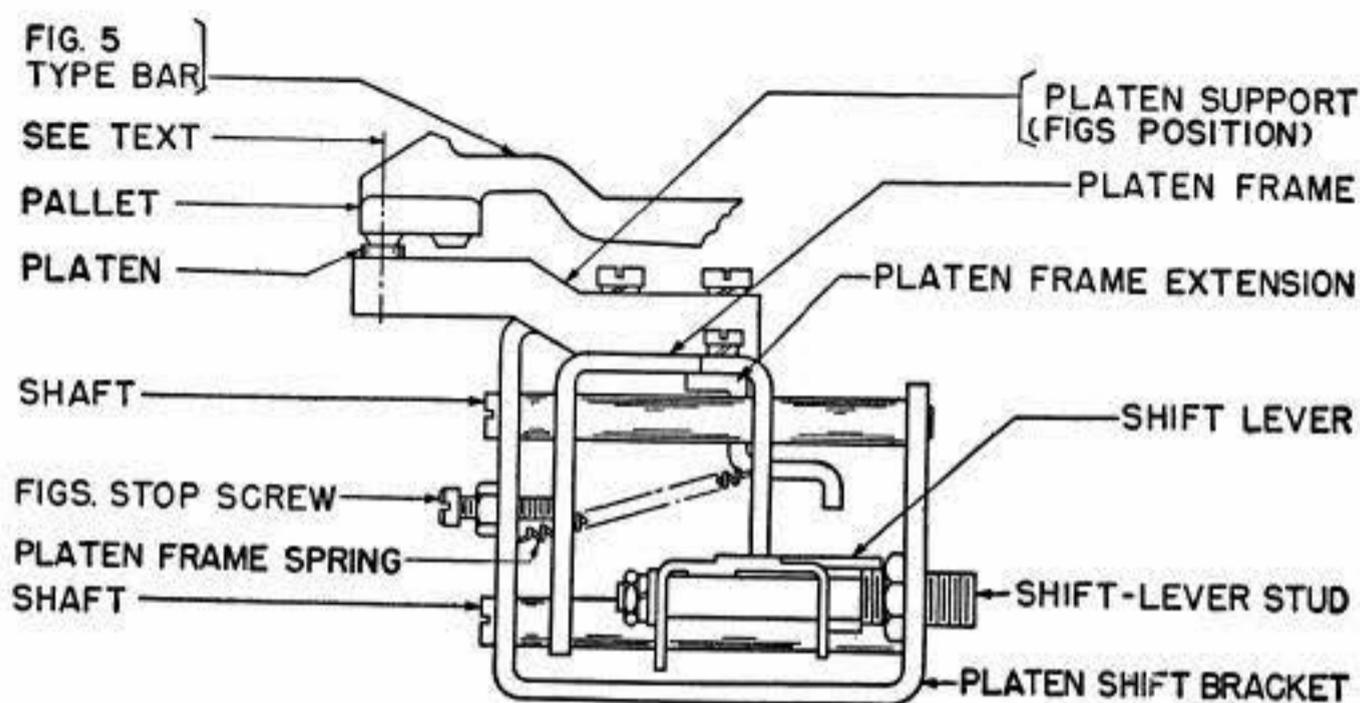

Fig. 30
2.45 **Figs. Stop Screw:** The figure 5 should print directly in front of and in line with the letter T (printed in 2.43) when the platen frame is unlatched and resting against the FIGS stop screw (forward position). **Fig. 30**